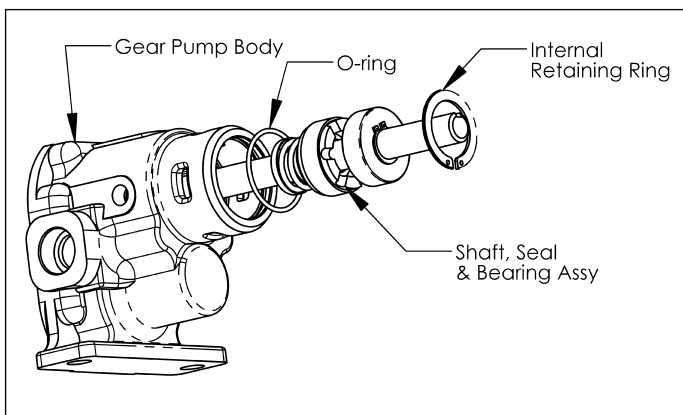
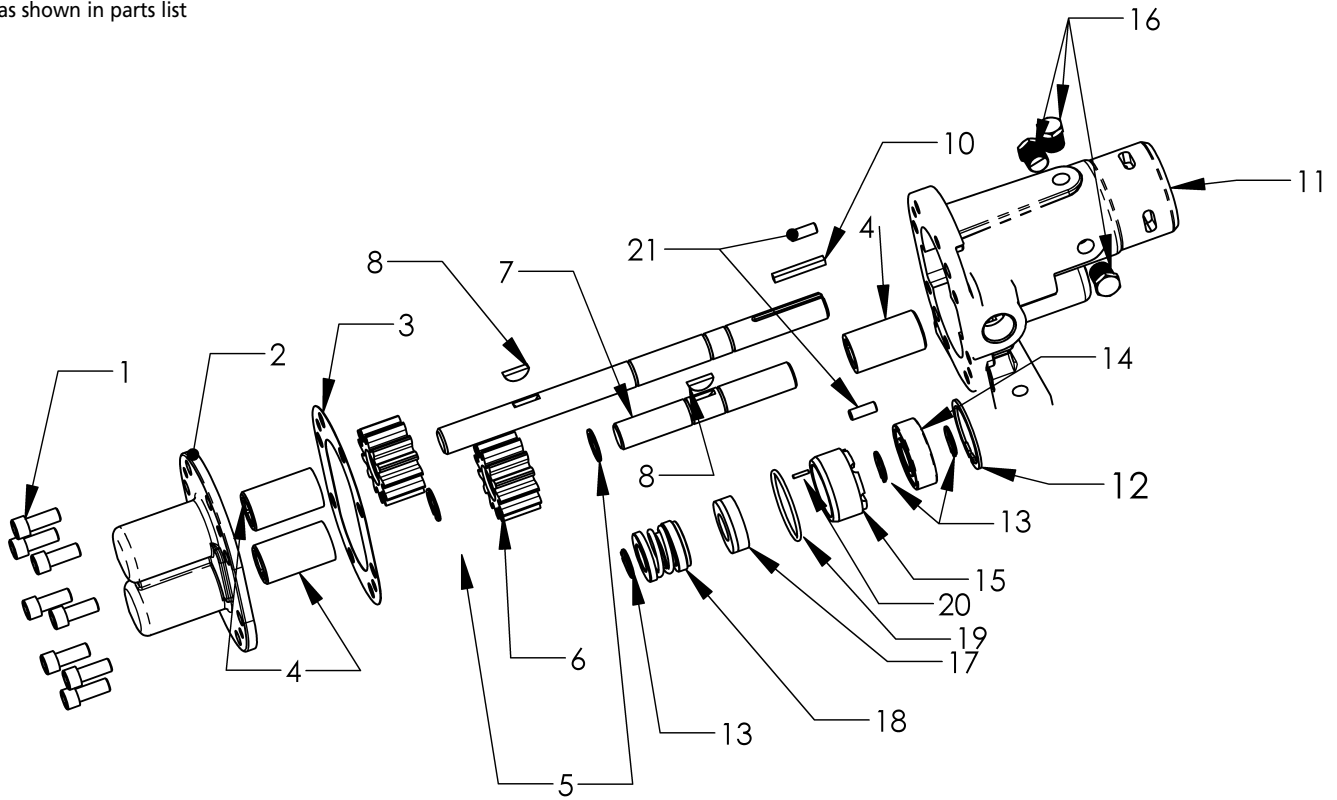

Figure 6 - Shaft, Seal and Bearing Assembly
Figure 11 – Repair Parts Illustration
(Refer to Figure 11 for Reference Numbers and Figures 6, 7, 8 & 9 for detailed seal and shaft assemblies.)
2. From the drive shaft end of the gear pump, remove the internal snap ring (Ref. No. 12) from the body (Ref. No. 11). The drive assembly, which consists of the drive shaft (Ref. No. 9), seal assembly (Ref. Nos. 17 & 18), seat retainer (Ref. No. 15), bearing (Ref. No. 14) and retaining rings (Ref. No. 13), can now be removed from the unit (See Figure 6). Also remove the internal o-ring (Ref. No. 19) from the body.
- a. Slide the seal retainer and bearing onto the drive shaft and install retaining ring, holding the bearing and seal onto the shaft (See Figures 6 and 7).
- f. Slide the drive shaft assembly (Ref. Nos. 9, 13, 14, 15, 17 & 18) into the gear pump and secure with the internal retaining ring (Ref. No. 12). (Also see Figure 6.)